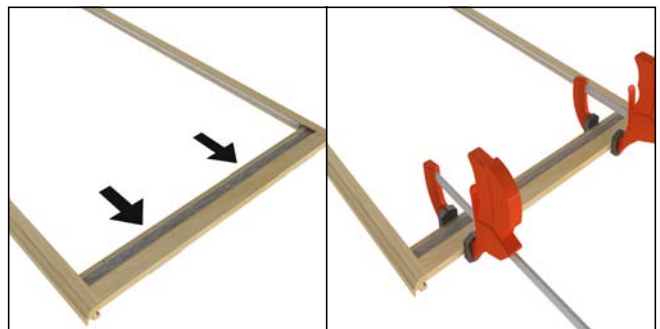

Figure 9
4. Move pull bars to the sill end. As you move the pull bars down, remove the stack in the cords by pulling on the spring end. Lightly clamp to sill end. See figure 9.